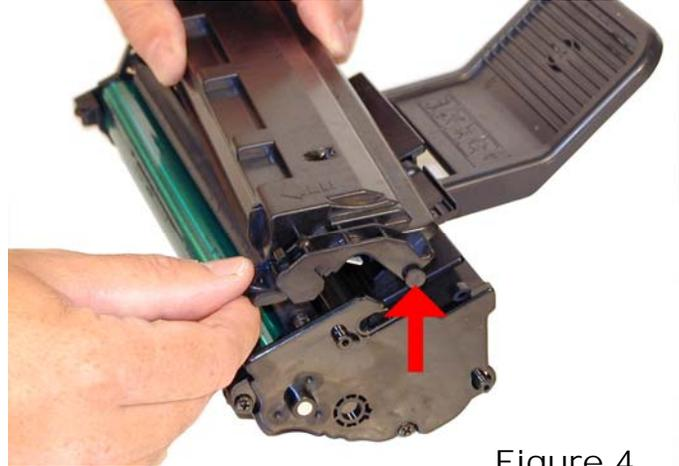

Figure 4
4) Lift up and remove the waste chamber from the cartridge. Make sure the tab on the right side slide out of the slot. If you try to lift the cover off without sliding the tab out, it will break off. See **Figure 4**